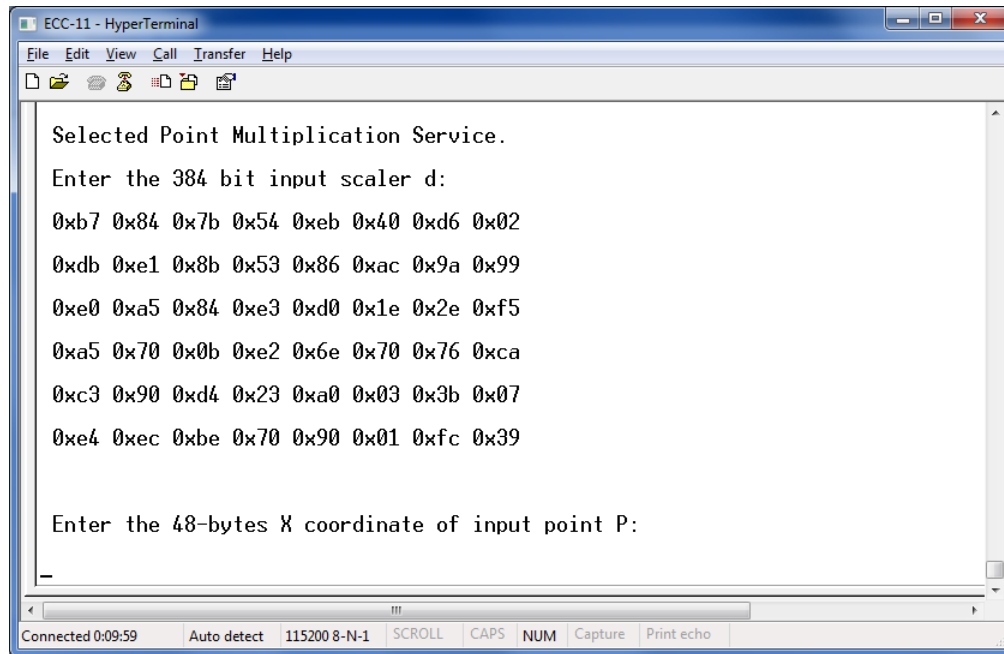

Figure 14 • Point Multiplication
5. Enter **m** to perform point multiplication and enter the 384 bit input scalar D, as shown in Figure 14 on page 16.